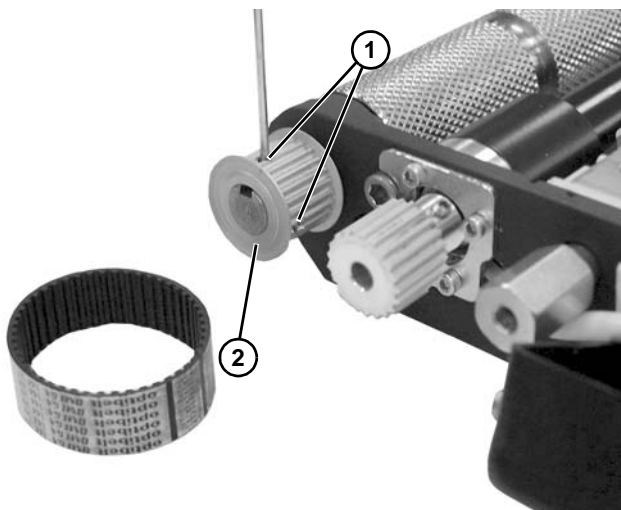

Figure 99
8. Loosen two set screws (Figure 99, item 1) on driven pulley (Figure 99, item 2), and slide off shaft to remove.